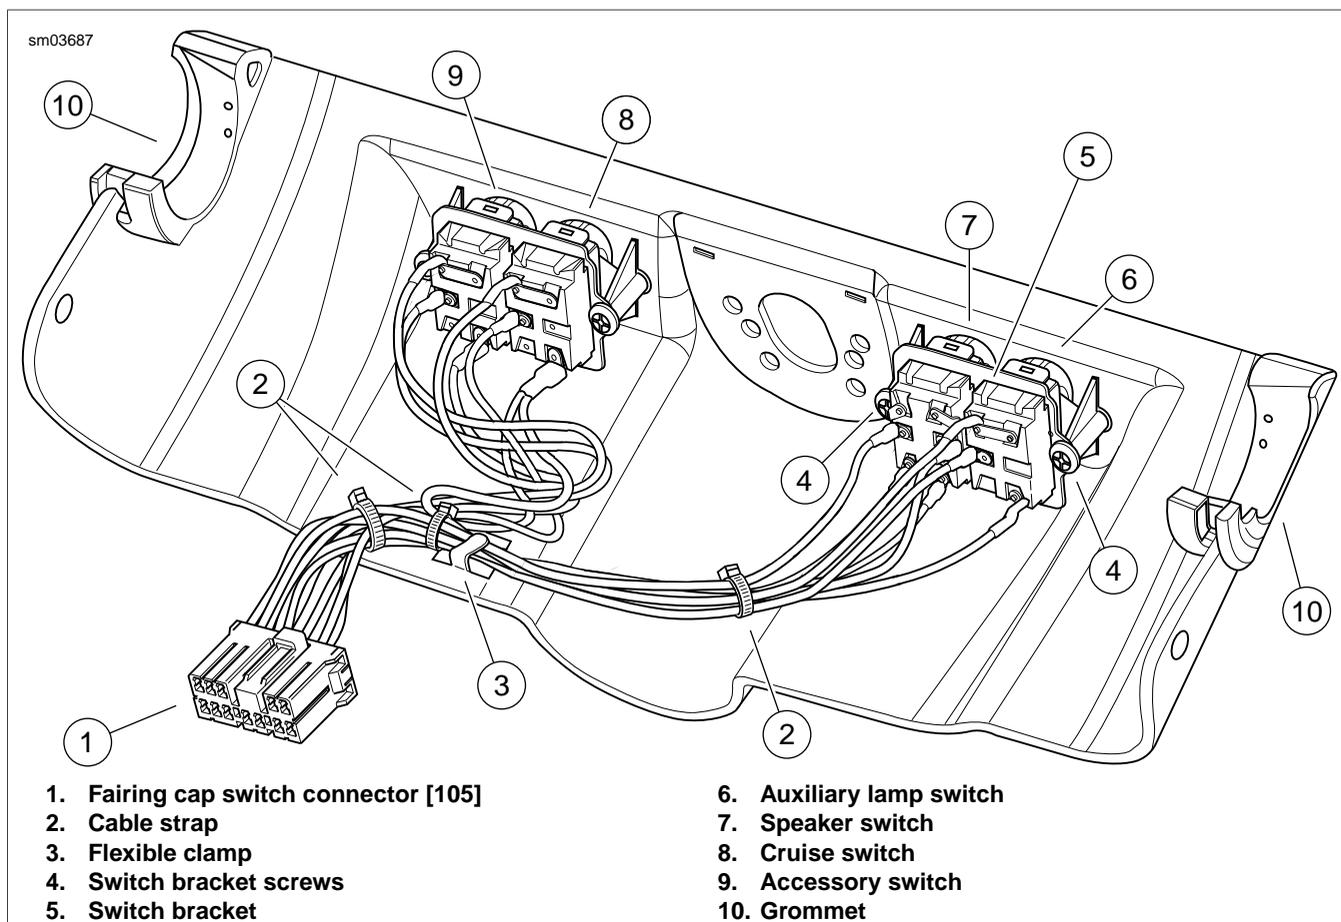

Figure 8-69. FLHTCU Fairing Cap (Inboard Side)
4. Remove fairing cap from motorcycle. See Figure 8-69.
- Install **new** cable straps to capture wire bundles and then secure switch wires to the fairing cap using the flexible clamp. Route the wires as shown in Figure 8-69.